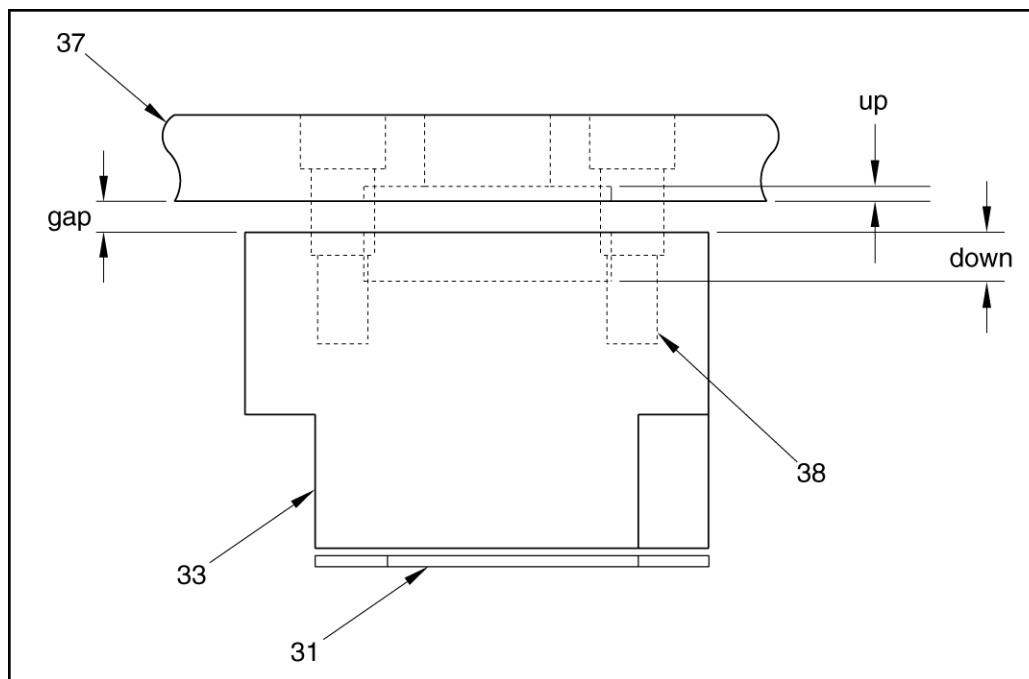

Figure 16.3 ROLLER/SPRING BRACKET
2. Measure upper pocket (up) (figure 16.3).
3. Measure lower pocket (down) (figure 16.3).
4. Assemble spreader (37) and bracket (33) with shoulder bolt (38).
5. Measure gap (figure 16.3).